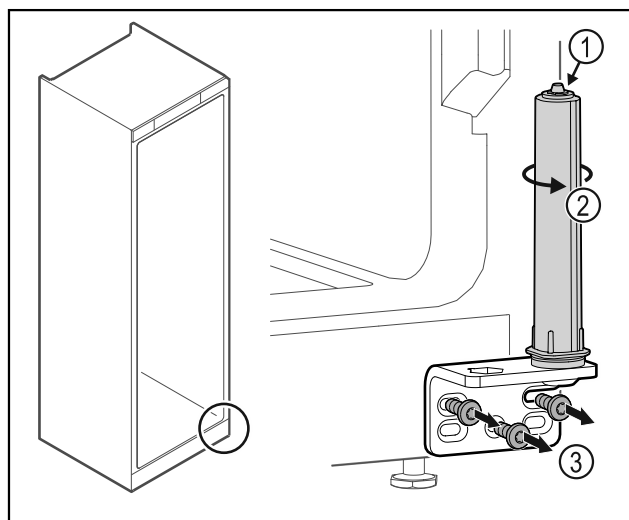

Fig. 14
► Do not disassemble the door closing system Fig. 14 (1).
- ▶ Turn the closing system Fig. 14 (2) until it clicks.
- ▶ Unscrew the hinge Fig. 14 (3).